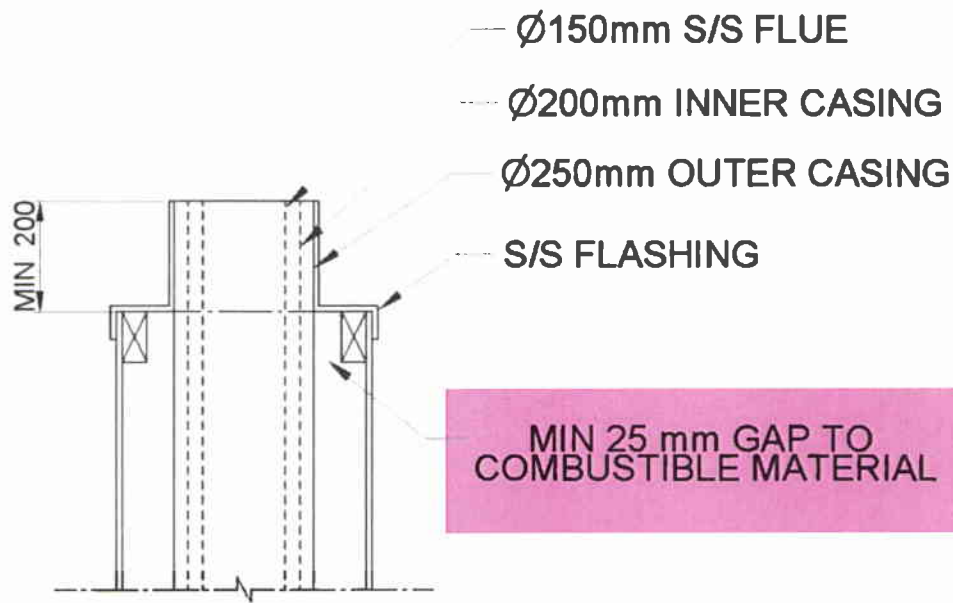

Fig. 9
20. Lower the assembled flue and seal and fix it to the flue socket of the heater. Use a **stainless steel screw**. Lower the inner flue casing and engage it with the special adaptor spigot ring, repeat this step with the outer flue casing. See Fig. 9 & 10 for flue and casing lengths.